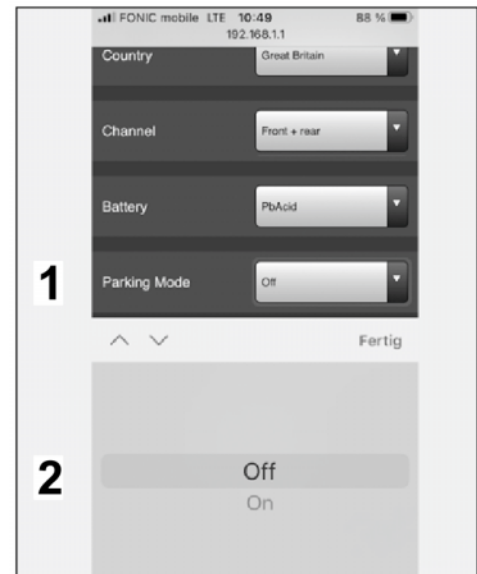

Figure 24
5.3.5 Select Park mode (⇒ *Figure 24*)